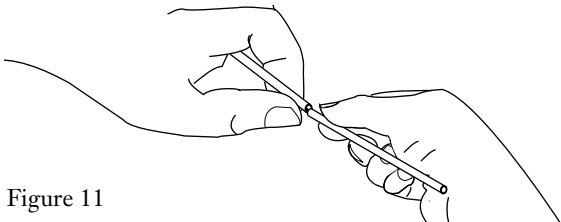

Figure 11
- e) Snap the tube at the scored area (Figure 11). Pull off the severed tube. **USE CARE TO AVOID DAMAGING THE FIBERS.**